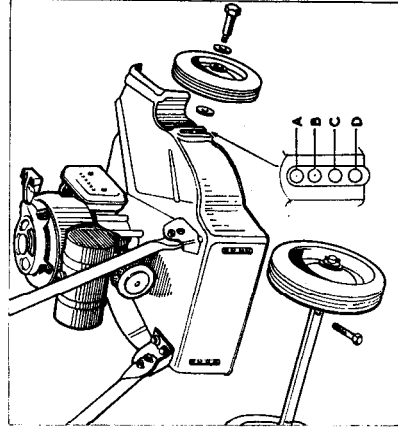

Fig. 3 Cutting height is determined by the position of the wheel axles: A— $\frac{1}{4}$ "; B— $1\frac{1}{4}$ "; C— $2\frac{1}{4}$ "
**Cutting long grass and rough areas.** This type of cutting will be done most efficiently with the wheels in their lowest position D (See Fig. 3). In particularly heavy growth maximum throttle opening may be required. It will therefore be advisable to delay the cutting of such areas until the engine is run-in.
**Height of cut.** Height of cut can be varied from  $\frac{1}{4}$ " to  $2\frac{1}{4}$ " by repositioning the wheel axles in the holes provided. (See Fig. 3). Make sure all axle bolts are fixed in the same relative holes.